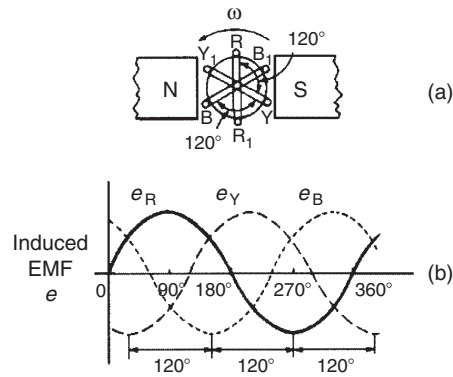

Figure 20.2
A **three-phase supply** is generated when three coils are placed  $120^\circ$  apart and the whole rotated in a uniform magnetic field as shown in Fig. 20.2(a). The result is three independent supplies of equal voltages which are each displaced by  $120^\circ$  from each other, as shown in Fig. 20.2(b).
- (i) The convention adopted to identify each of the phase voltages is: R-red, Y-yellow and B-blue, as shown in Fig. 20.2
currents ( $I_L$ ) and the p.d.s between them are known as line voltages ( $V_L$ ). A fourth conductor, called the **neutral** (coloured black, and connected through protective devices to earth) is often used with a three-phase supply. If the three-phase windings shown in Fig. 20.2 are kept independent then six wires are needed to connect a supply source (such as a generator) to a load (such as motor). To reduce the number of wires it is usual to interconnect the three phases. There are two ways in which this can be done, these being: